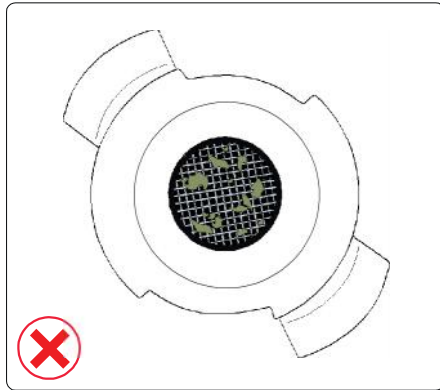

FIG1
10. Check coupling inlet gauze is present and free from contamination (FIG1 gauze present but needs cleaning) (FIG2 suitable)